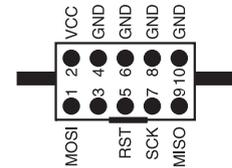

Fig. 1. Output connector pin layout
- ▶ 10-pins IDC output header, Atmel standard pinout (Fig. 1)